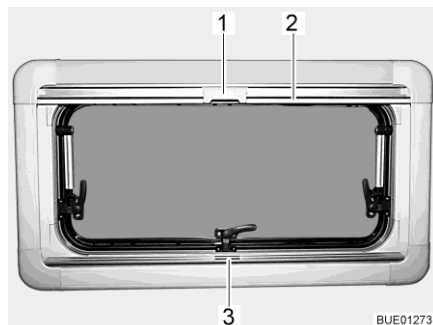
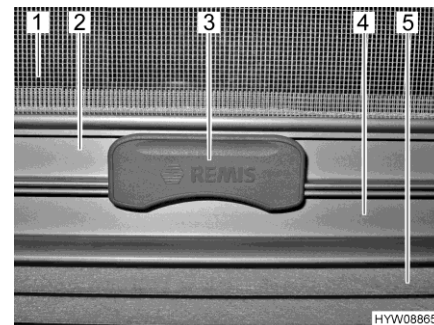

Fig. 22 Hinged window
Fig. 23 Catch
Roman shade The Roman shade (Fig. 23,5) is located in the lower blind box.
Closing: ■ Seize the Roman shade by the centre of the holding bar (Fig. 22,3 and Fig. 23,4), pull it from the bottom to the top and release it at the desired height. The Roman shade will stay at this height.
Insect screen The insect screen (Fig. 23,1) is located in the upper blind box.
Closing: ■ Pull the insect screen down by the holding bar (Fig. 22,2 and Fig. 23,2), until it touches the holding bar of the Roman shade (Fig. 23,4).
■ Clip the catch (Fig. 22,1 and Fig. 23,3) on the insect screen into the holding bar of the Roman shade. When the catch is locked, the Roman shade and the insect screen can be adjusted together.
Opening: ■ Push the catch (Fig. 23,3) on the insect screen upward.
■ Move the insect screen back slowly on the holding bar (Fig. 22,2).